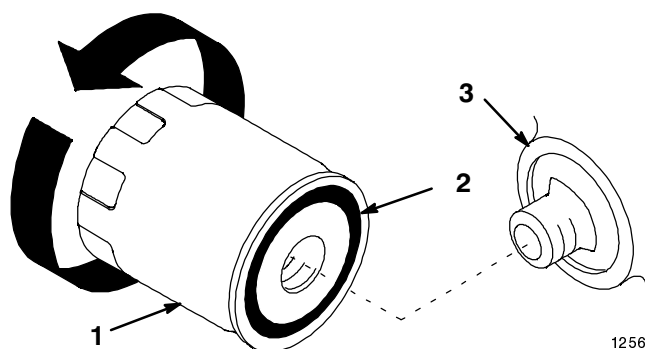

Figure 33
6. Change oil filter. (Fig. 33).
2. Remove the old filter and wipe the filter adapter (Fig. 33) gasket surface.
3. Apply a thin coat of new oil to the rubber gasket on the replacement filter (Fig. 33).
4. Install the replacement oil filter to the filter adapter. Turn the oil filter clockwise until the rubber gasket contacts the filter adapter, then tighten the filter an additional 1/2 turn (Fig. 33).